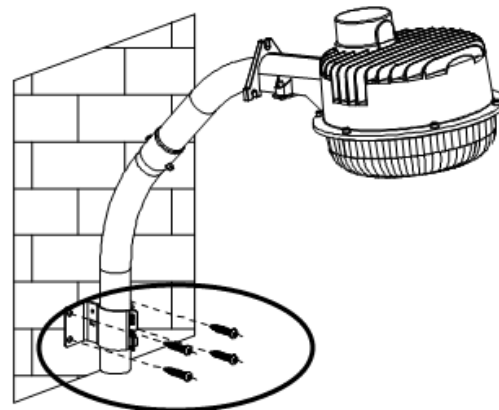

FIG.8
6. Tighten the four screws on surface to mount the arm and fixture. (FIG.8)